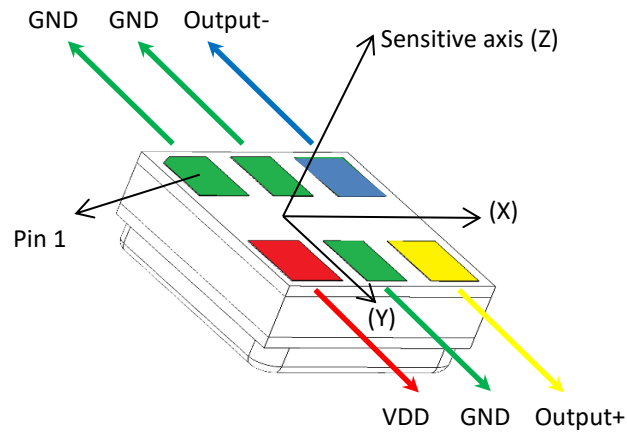

Figure 1 Sensitive axis (Z) of VPU
Figure 1 shows the VPU has a single sensitive axis (Z). When a person speaks, the whole skull vibrates. The speech induced skull vibration can be picked up on different head spots, such as ear canal, concha, behind the ear or nasal bridge. The VPU sensor should be placed in the location and in the direction where the most bone conduction is transmitted for a person's own voice.